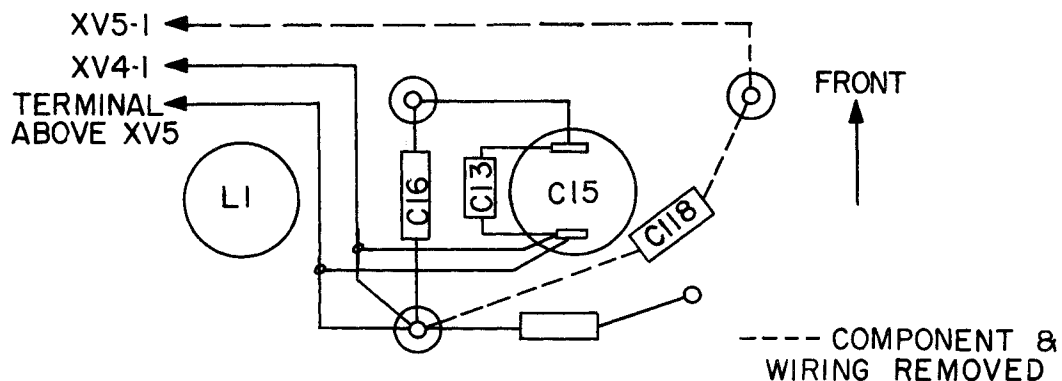

Figure 1. Wiring Location of L1 Shield Can
lead are connected to insulated terminal mounted on trimmer capacitor. Discard coax and capacitor. See figure 1.
7. Install a five inch length of coax cable (425 0926 00) from terminal directly over XV5 pin 9 (installed in step 5) to insulated terminal to which C16 and coax cable to XV4 pin 1 is connected. See figure 1. Ground coax shield to C15 as shown in figure 1. Ground shield at C15 end only.